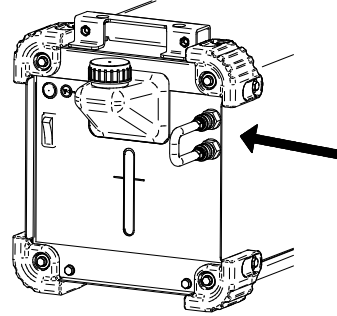

Figure 6.
- Connect the hose with quick water connector (added to the equipment) to the cooler's inlet and outlet socket (Figure 6).